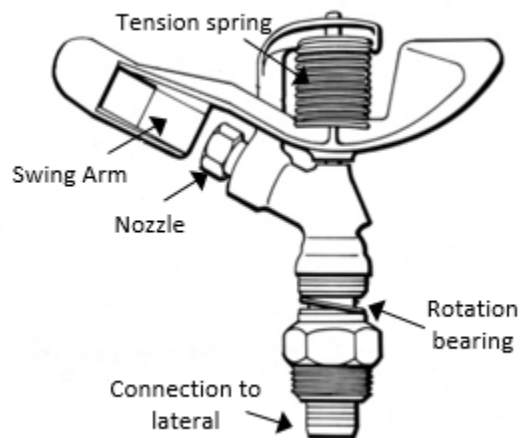

Figure 4-13. Rotary impact sprinkler.
- **rotary impact** – a sprinkler whose head rotates around the base due to a swinging, spring-loaded impact arm (Figure 4-13) . The water pressure throws the arm to the side, it returns due to the spring, and intercepts the water stream, causing the sprinkler to rotate several degrees. Has a small bore (nozzle) opening (1/8 to 3/8 inch). Made of metal or plastic.